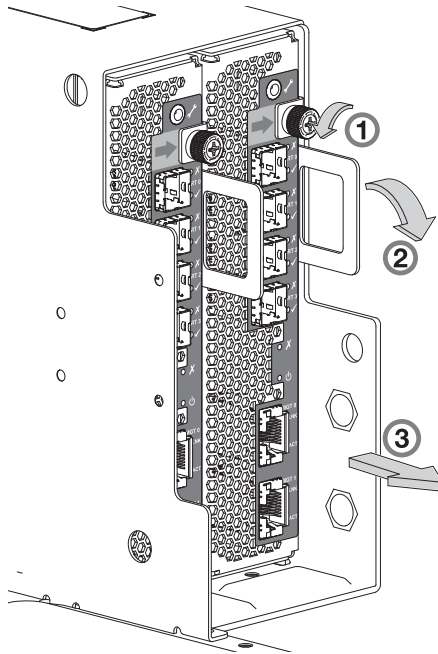
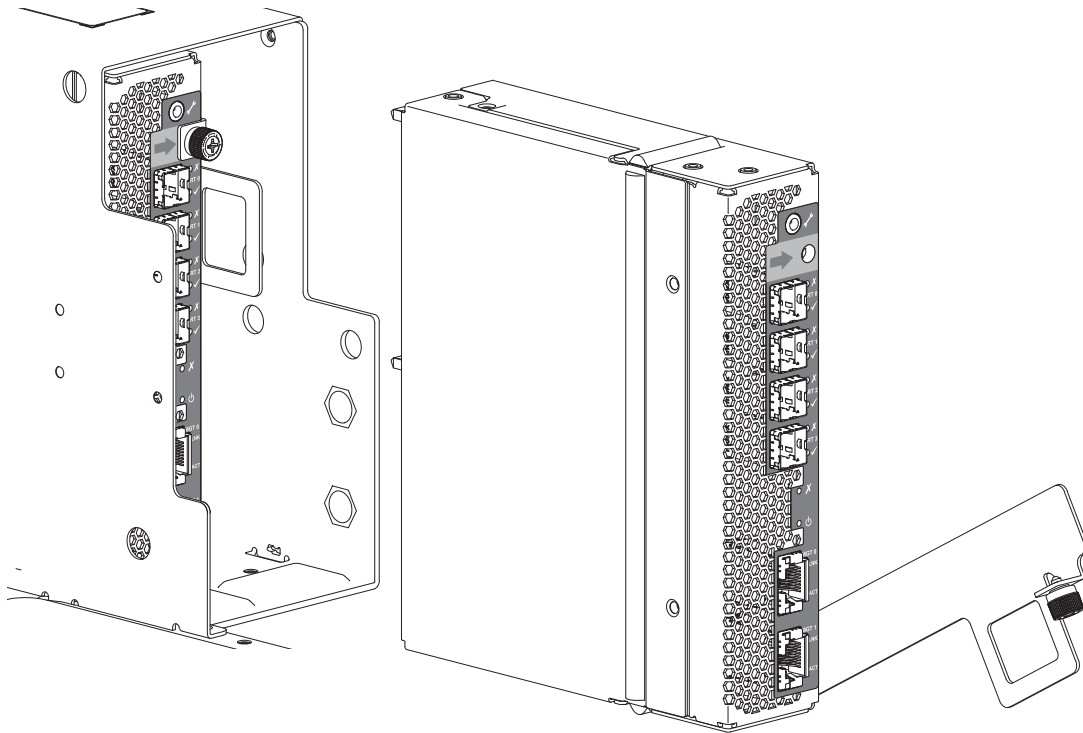

Figure 73 Removing an IOM (1 of 2)
Figure 74 Removing an IOM (2 of 2)
3. Unlock the IOM latch handle by turning the thumbscrew counter-clockwise as shown in detail No.1 in Figure 73.
4. Grasp the IOM latch handle between the thumb and index finger and pull. Revolve the handle out and downward to lever the IOM out of the enclosure as shown in details No.2 and No.3 in Figure 73 \(page 87\).
5. Grip the latch handle and ease the IOM forward from the slot as shown within Figure 74 \(page 87\).
NOTE: When performing the following procedure, refer to Figure 74 and Figure 73 \(page 87\) while ignoring the directional arrow. For installation, the IOM travels in the opposite direction relative to the arrow shown.